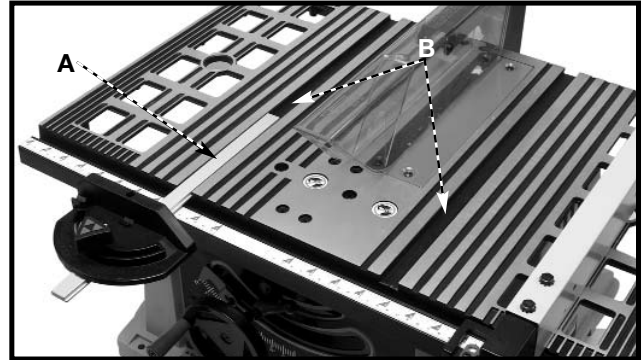

Fig. 18
The miter gauge is shipped assembled and is supplied with a T-slot bar (A) Fig. 18 that is inserted into either one of the two T-slotted miter gauge grooves (B) located in the table top. The T-slot prevents the miter gauge from falling when it is extended beyond the front of the table when cross-cutting extra wide workpieces.